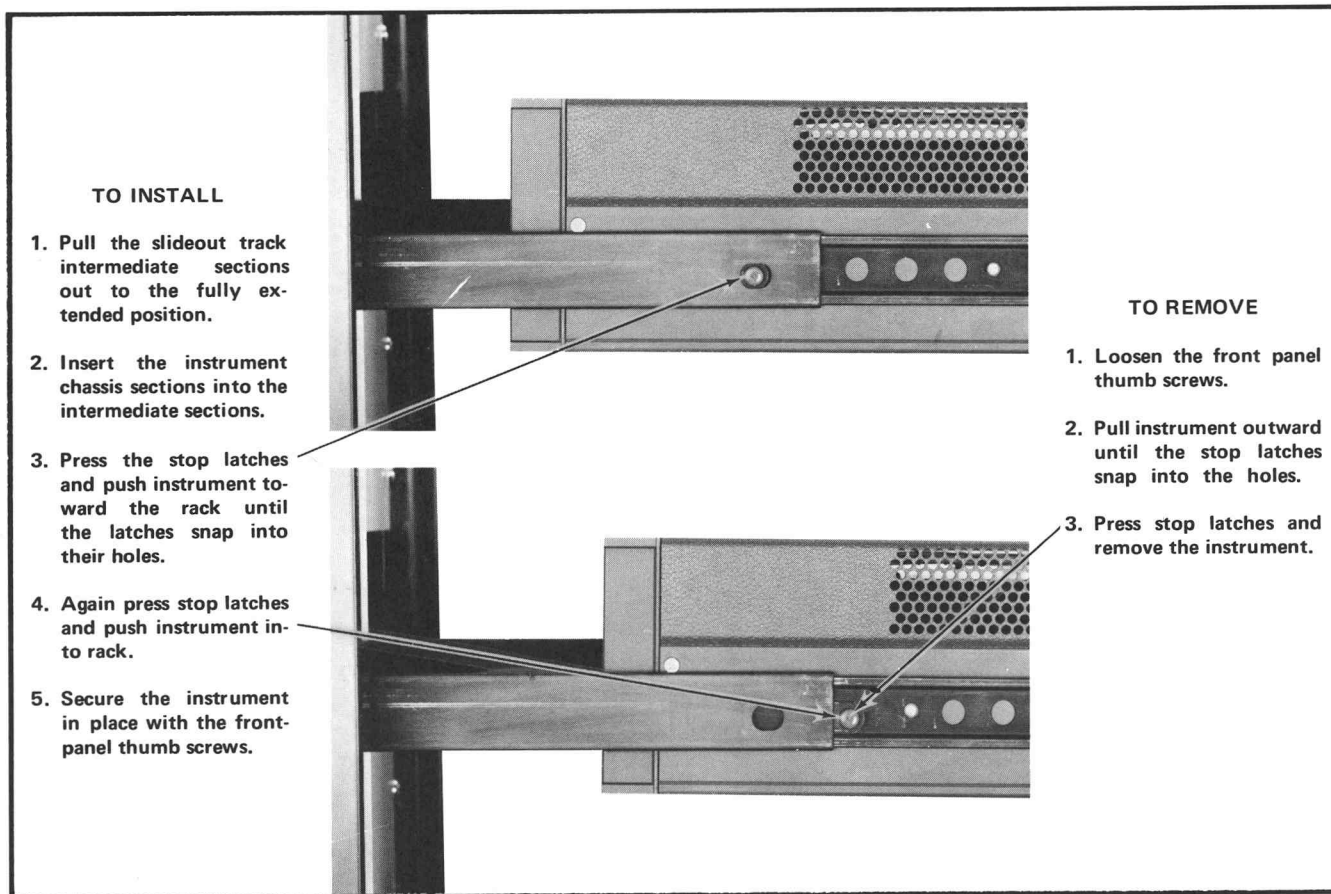

Fig. 6-8. Installing and removing the instrument.
1. Insert the instrument into the rack as shown in Fig. 6-8.